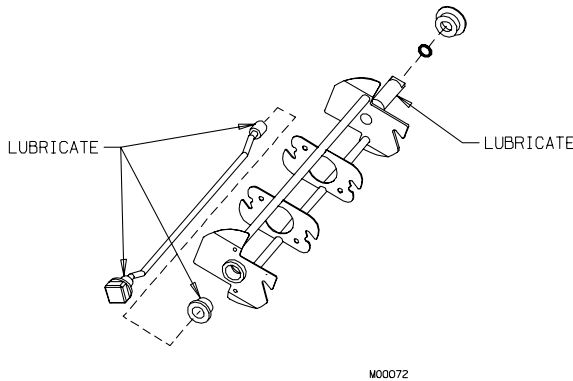

Figure 7-2 Install shaft seal assembly on beater shaft
2. Place the quad ring over the rear of the beater shaft and lubricate. Install the beater shaft seal (figure 7-2) over the rear of the beater shaft, with the bell-shaped portion facing the rear and the washer portion against the quad ring.
3. Apply lubricant to the bearing areas of the breaker bar and bushing (figure 7-2).
The beater bushing (shown in figure 7-2) must be installed or the freezer will be damaged.
4. Insert the breaker bar into center of beater shaft. Lubricate the bearing surfaces and insert the breaker bar into the hole in rear beater shaft disc (figure 7-2).